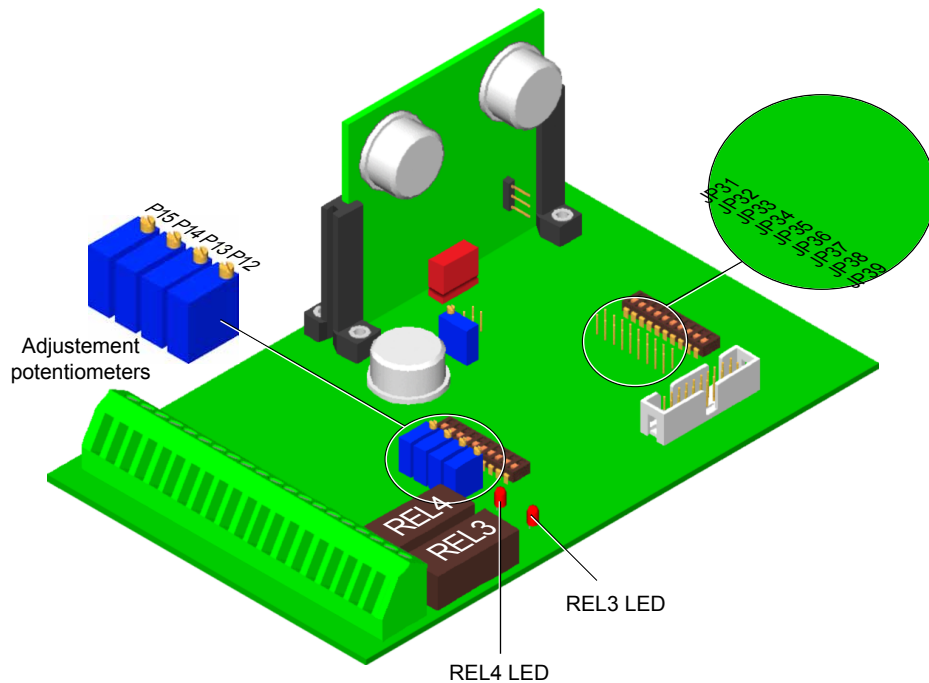

Fig. 3-4 Location of the relays REL3 and REL4 and of the adjustment potentiometers
3. Turn the potentiometer P12 slowly until the LED of REL3 goes on: the detection level will then be switched off. *Figure 3-4* indicates where the potentiometers P12 to P15 and this LED are located.